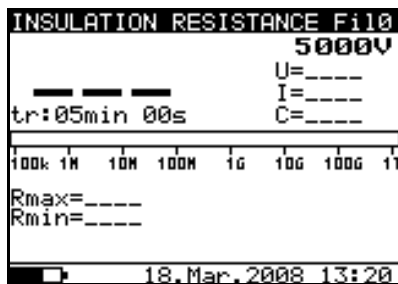
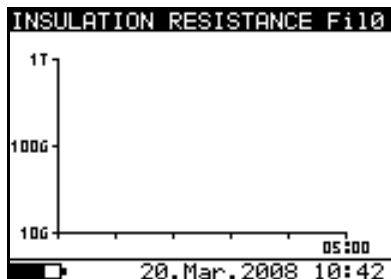

Fig. 20: Initial numerical screen
Fig. 22: Initial graphical screen
2. Select with arrow keys \blacktriangledown or \blacktriangle the item "INSULATION RESISTANCE" on main menu and confirm with **SELECT** key. The screen of Fig. 20 is shown by the meter. In case of activation of Graphic R(t) option press arrow keys \blacktriangledown or \blacktriangle to select the graphical screen of Fig. 22